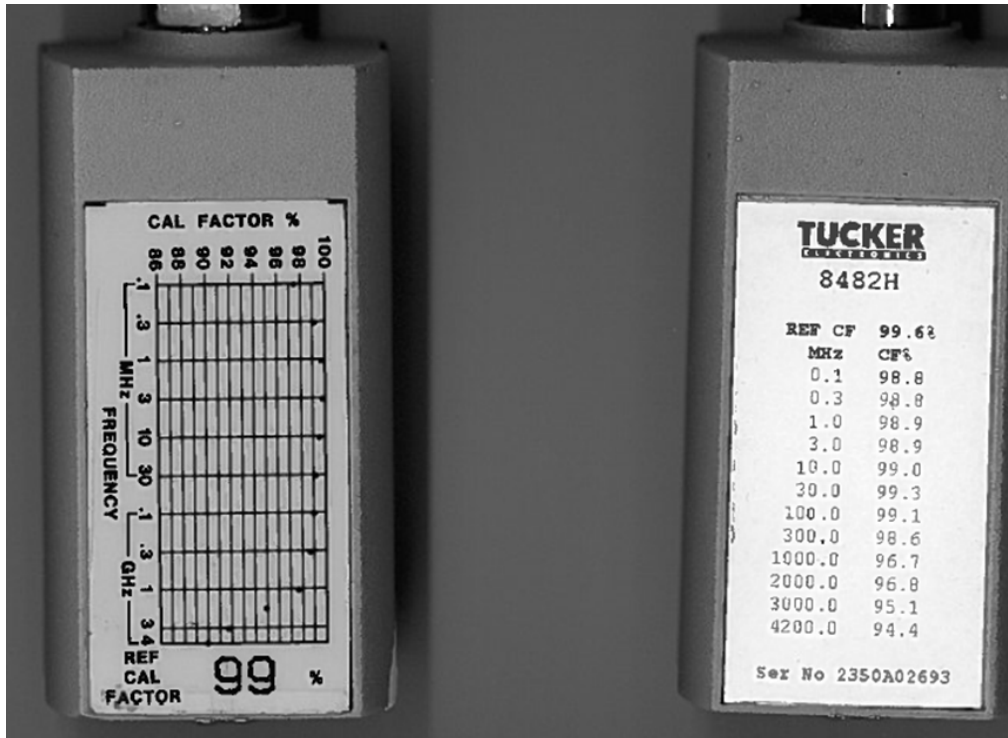

Figure 1: Power Sensors with Cal Factor (CF) Data
Fig.1 Power sensors with Cal Factor (CF) data. CF as low as 90% is shown. For frequencies not enumerated, use straight-line interpolation of adjacent data. If your measurement frequency is not enumerated or between data provided, you are using the wrong sensor.